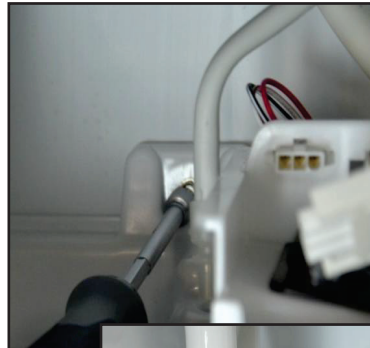

FIGURE 14
10. Remove 1 hex head screw and remove the reservoir assembly. Remove wire harness. See *Figure 14*.